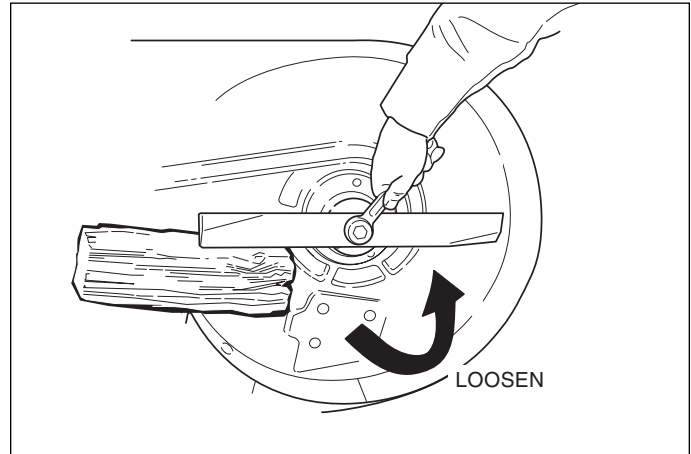

Figure 14. Blade Removal
2. See Figure 14. To remove blade for sharpening, use a block of wood to prevent blade rotation while loosening the hardware.